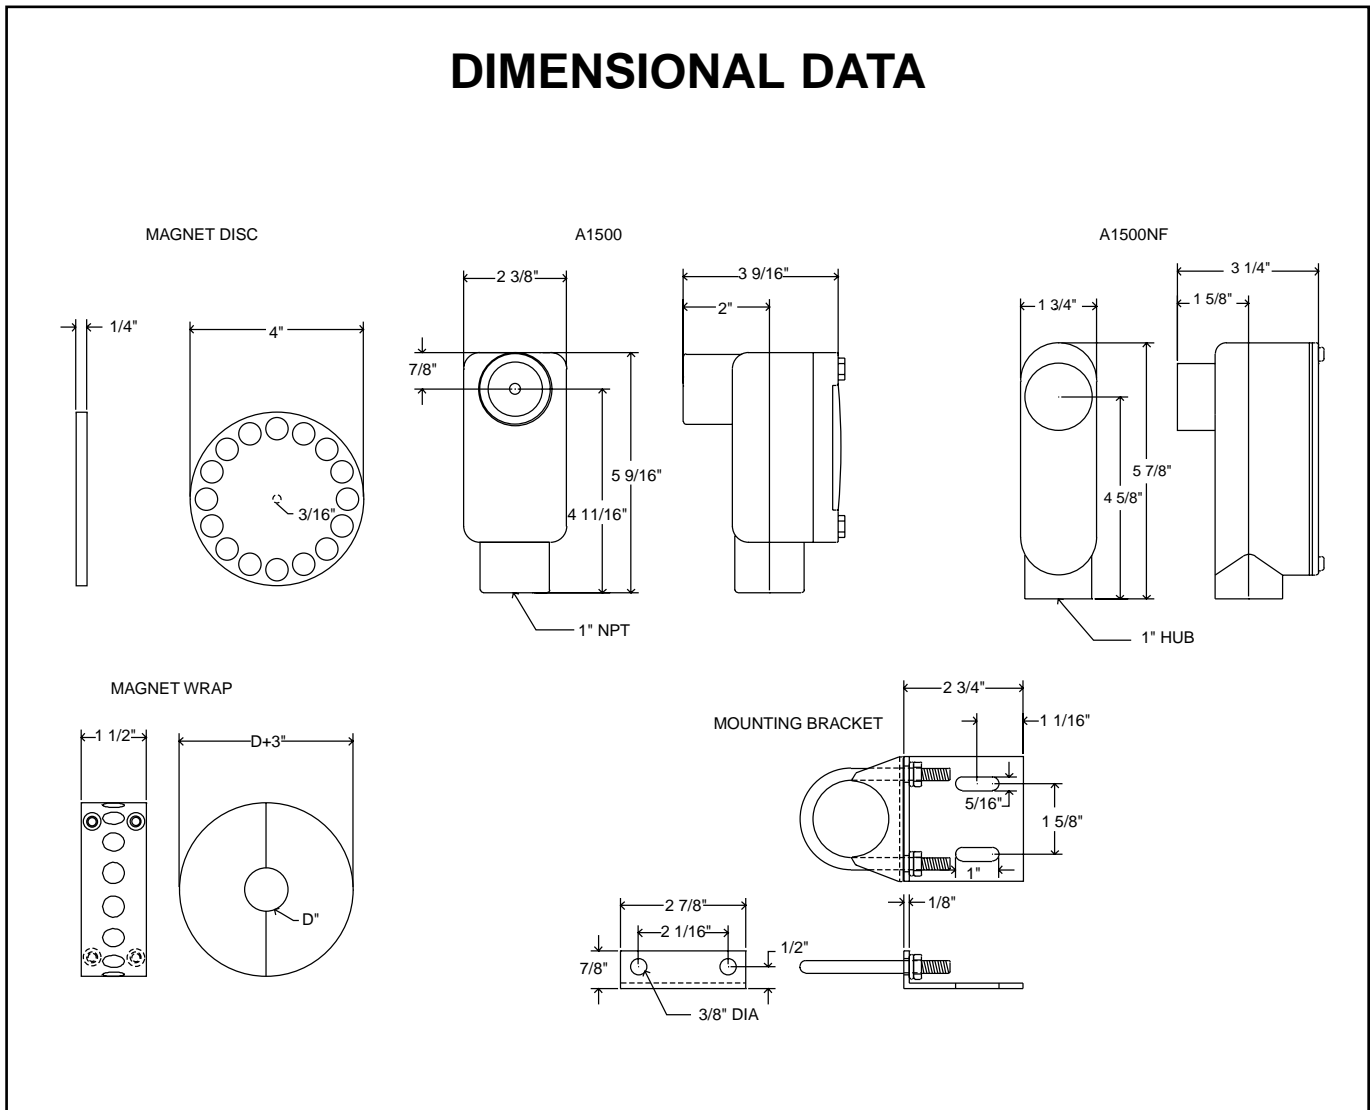

Figure 2
4.1 The A1500 switch housing is UL/CSA listed and certified for Class I, Div. 1 & 2, Group D, Class II Div. 1 & 2, Group E, F, & G, Class III. (see figure 2, page 4).
4.2 The A1500NF switch housing is rated NEMA 3 PVC. (see figure 2, page 4).